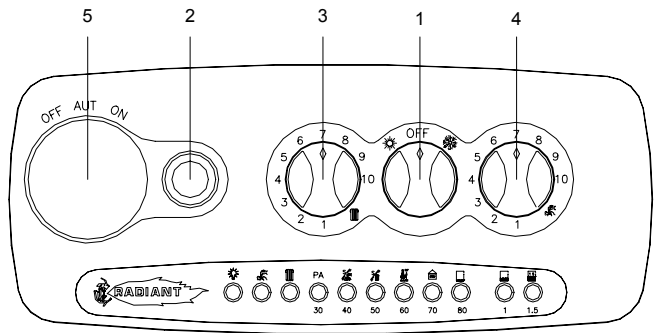

Fig. 1
- B. Move the bridge PT (see fig.1) from terminal TA to the free one next to it.
LEGEND (see fig. 1)
- make sure the cap on the auto air vent valve is slightly loose to allow air to escape from the system (see fig. 1);
- turn selector switch 1 to the WINTER ❄ position (see fig. 1), after a few seconds the pump will come into action;